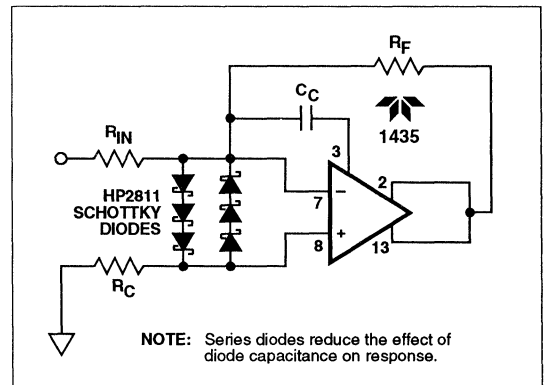

Figure 10. Input Protection
In order to operate the 1435-HR from +85°C to +125°C, it must be used with a 18°C/W heat sink. A suggested heat sink is the Thermalloy Model 6007A* (modified by removing the two fins at each end and adding the aluminum hold-down bar, as shown in Figure 10.) Heat-sink compound must be used between the 1435-HR and the heat sink.
3. Provide input protection per Figure 10.